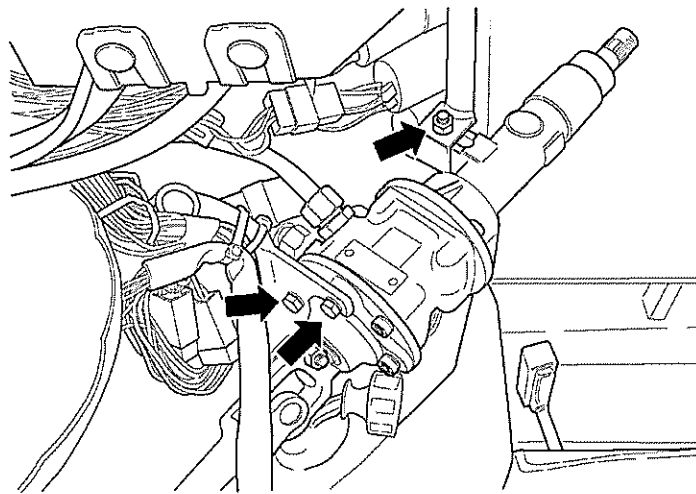

Fig 3 Steering valve and spindle housing fixing bolts
- 10.3 Loosen bolts securing hydraulic steering valve to bracket. Loosen clamping bolt to steering spindle housing (see Fig 3).